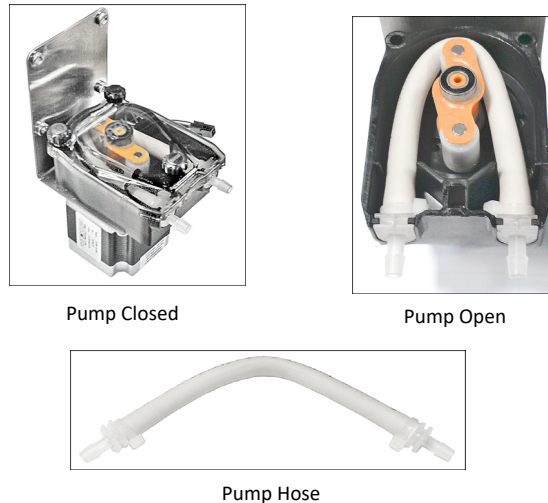

Figure 4-5 - Concentrate Pump & Overhaul Kit
- 10) Install the new pump hose. When installing it, orient the rotor as shown in the upper photos of Fig. 4-5 so that only one point on the hose must be compressed.